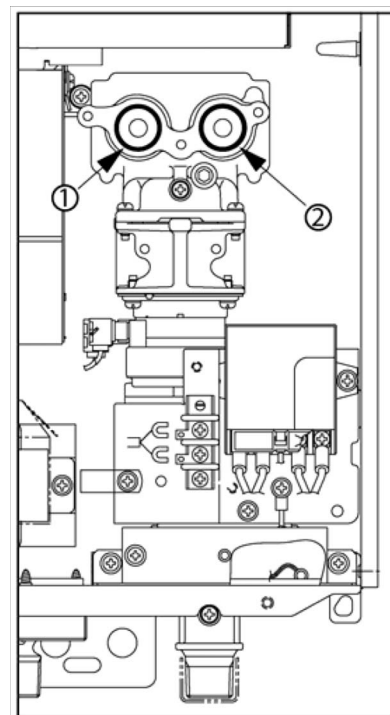

Fig. 2
- ▶ 6. Locate the 2 black O-Rings on the gas valve as indicated in Fig. 2. If torn or damaged, remove and replace these O-rings with the 2 new O-rings supplied in the conversion kit. Discard the old O- Rings.
- ▶ 9. Secure the new manifold plate to the unit using the screws removed in step 5. The screws need only to be hand tightened and should not be tightened using a drill. First, insert screws 1-3 from Figure 2, but do not fully tighten these screws. Insert and fully tighten screws 4-7. Then proceed to completely tighten screws 1-3.